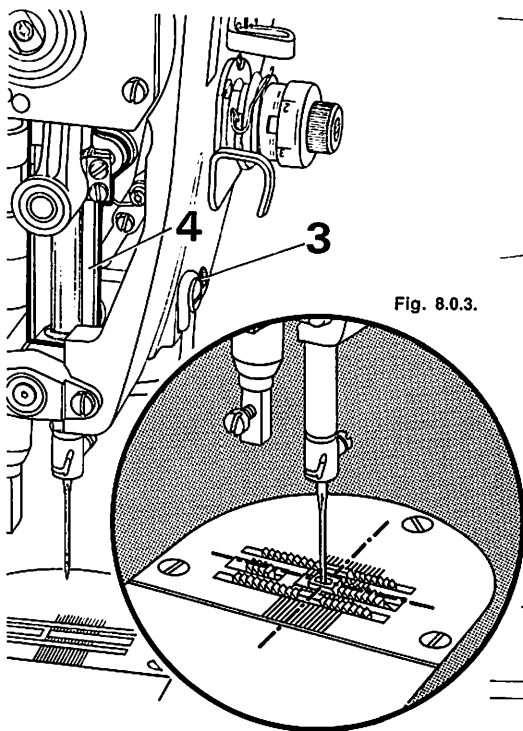

Fig. 8.0.2.
- 8.5. Loosen screw 3 in the lug of the needle bar frame (Fig. 8.0.2.).